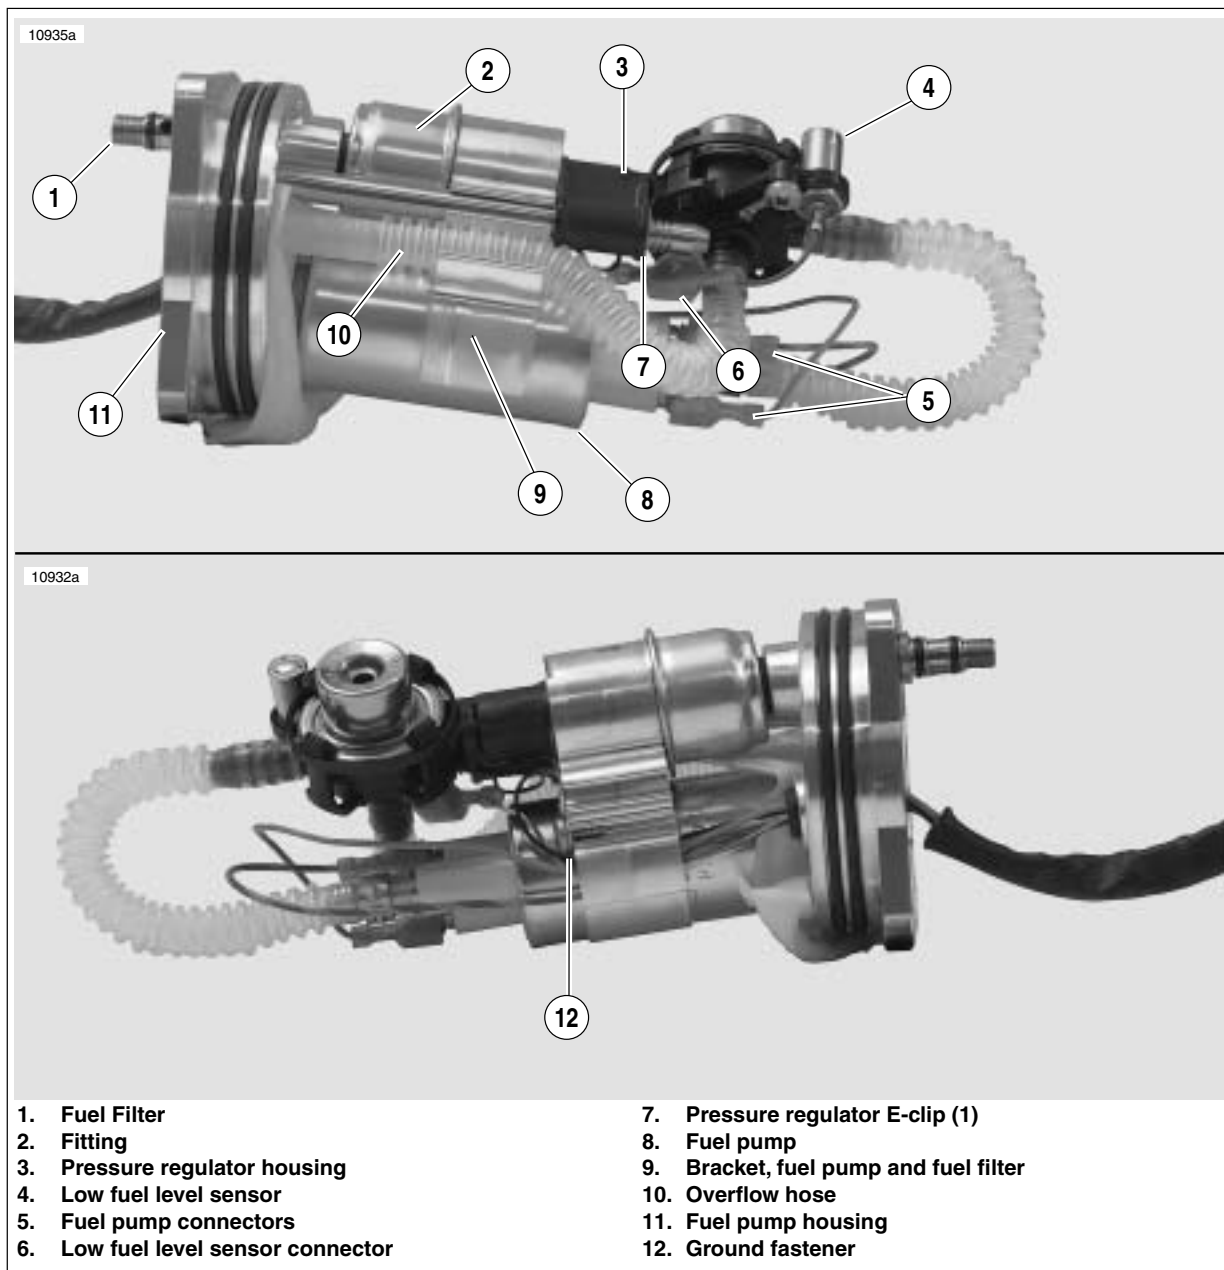
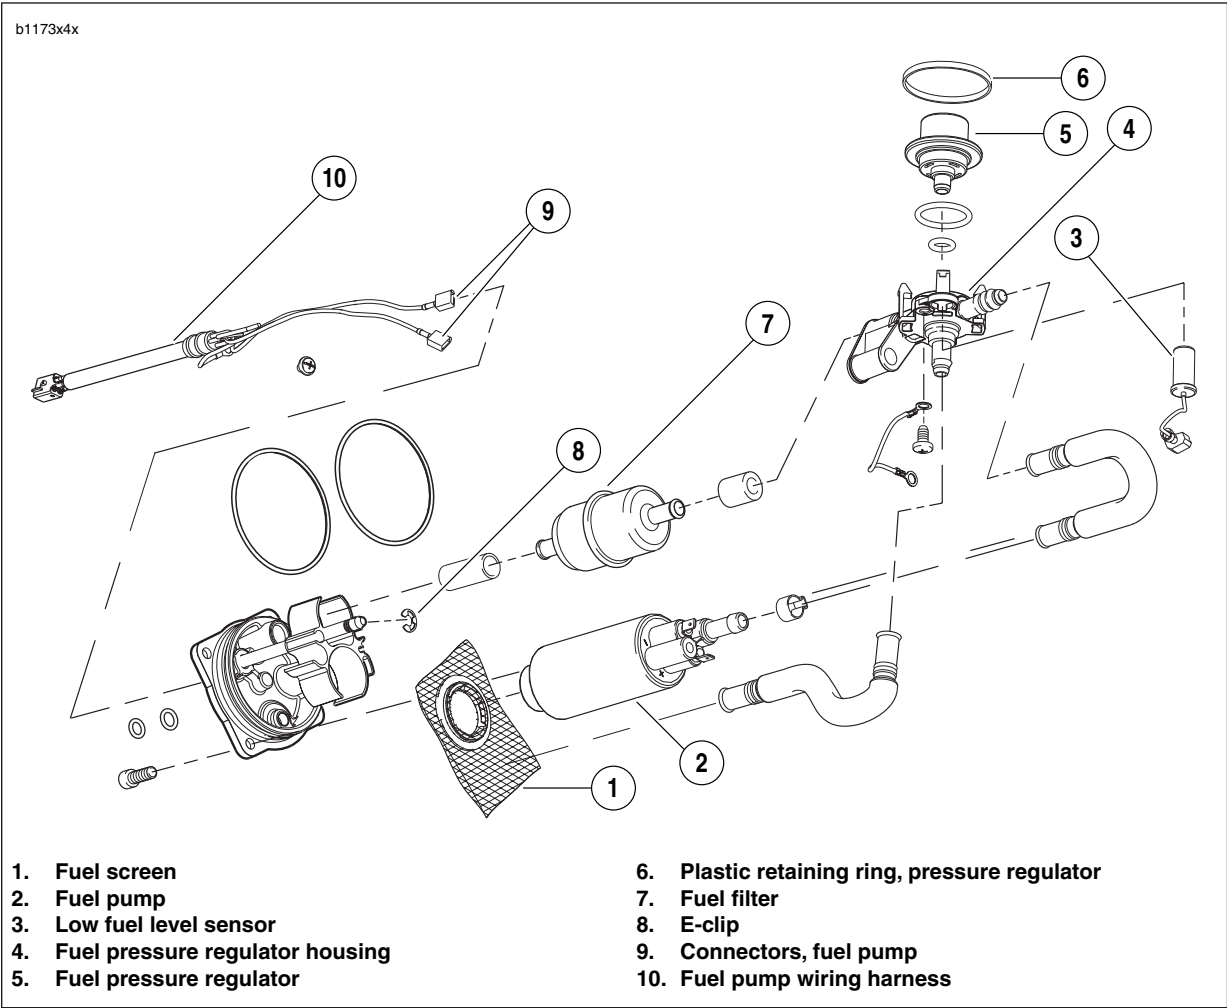

Figure 4-91. Fuel Pump Assembly (Left and Right Sides)
Figure 4-92. Fuel Pump Assembly
2. See Figure 4-91. Disconnect electrical connectors (5) & (6).
3. Remove ground fastener (12) from the fuel pump and fuel filter bracket (9).
4. Remove fuel pressure regulator E-clip (7).
5. Pull regulator housing (3) and fuel pump (8) with bracket (9).
6. Remove fuel filter (2).
7. Install rubber seals on **new** fuel filter and install filter into pump housing (11).
8. See Figure 4-91. Install regulator housing (3) and fuel pump (8) assembly.
9. Install E-clip (7) in bottom groove on shaft.
10. Install ground fastener (12) and connect ground wires to bracket (9) and tighten to 18-22 **in-lbs** (2.0-2.5 Nm).
11. Connect electrical connectors (5) & (6).
5. Pull regulator housing (3) and fuel pump (8) with bracket (9) as an assembly.
6. See Figure 4-92. Pry fuel screen (1) from fuel pump (2).
8. Install regulator housing assembly (4) & (5) and fuel pump (2).
9. Install E-clip (8) in bottom groove on shaft.
10. See Figure 4-91. Install ground fastener (12) and connect ground wires to bracket (9) and tighten to 18-22 **in-lbs** (2.0-2.5 Nm).
11. See Figure 4-91. Disconnect fuel pump connector (5) and low fuel level sensor connector (6).
2. See Figure 4-91. Disconnect fuel pump connector (5) and low fuel level sensor connector (6).
4. See Figure 4-91. Remove ground screw (12).
8. See Figure 4-91. Insert **new** fastener (12), through ground wire terminal and secure to bracket (9).
10. See Figure 4-91. Connect low fuel level sensor connector (6).
11. Connect fuel pump connectors (8). Connectors are two different sizes.